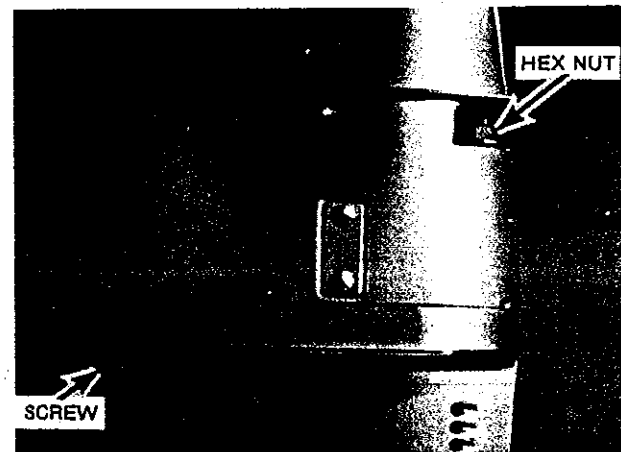

Figure 4. Unscrew stud hex nut.
- E. Use a 1/2-inch open end wrench and remove column stud nut and lockwasher (Figure 4).